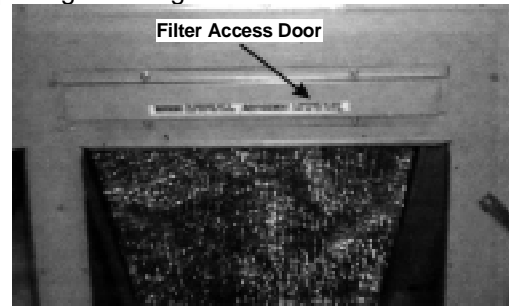

Figure 9
2. Locate the filter access door above the return air opening. See Figure 9.